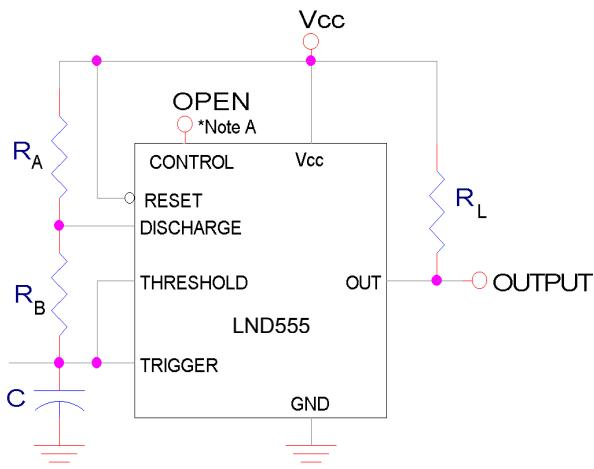

Figure 1 :Circuit for Astable Operation
1. This parameter influences the maximum value of the timing resistors R_A and R_B in the circuit on Figure 1. For example, when $V_{cc}=5V$, the maximum value is $R=R_A+R_B=3.4 M\Omega$, and $V_{cc}=15V$, the maximum value is $10M\Omega$.
5. Values specified are for a device in an astable circuit similar to Figure.1, with component values as follow: $R_A, R_B=1K\Omega$ to $100K\Omega$, $C=0.1\mu F$.